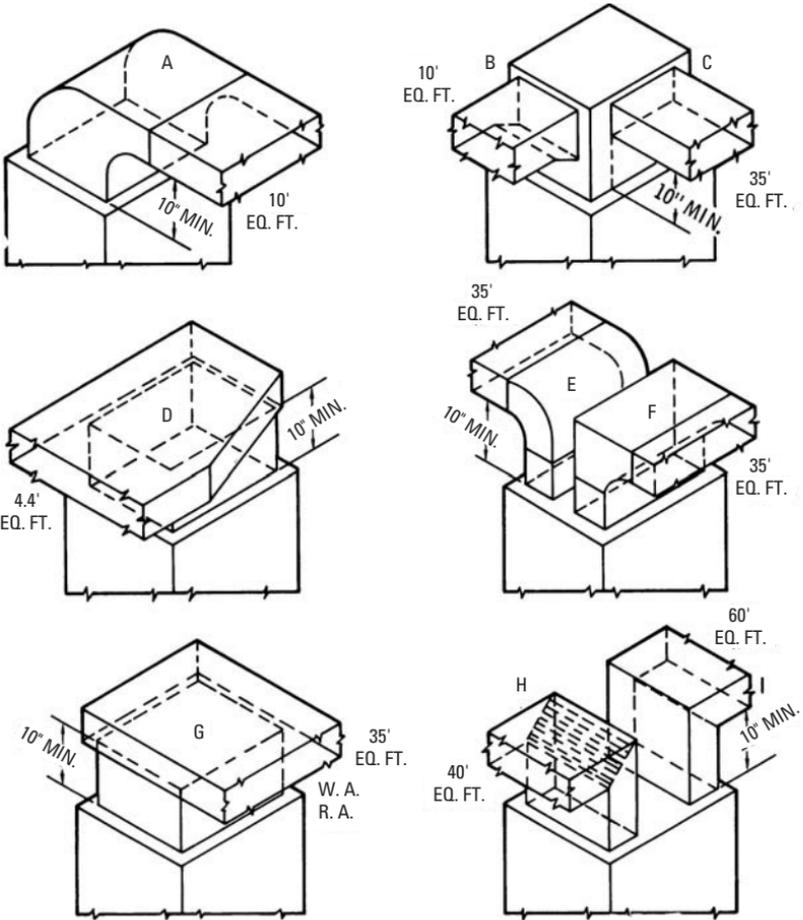

Figure 7-8 Warm-air and return-air bonnet or plenum.
- Supply-air and return-air bonnet or plenum (see Figure 7-8)